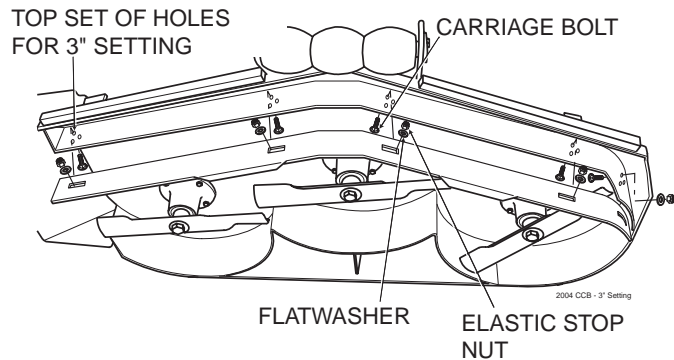

Figure 6-8. 3" Custom-Cut Baffle Position
- A. 3" Position - baffle is installed using the top set of holes on the front baffle welded inside the cutter deck. (See Figure 6.8). The Advantage+ cutter deck will deliver the best quality-of-cut in very tall, wiry, tough to cut grass.